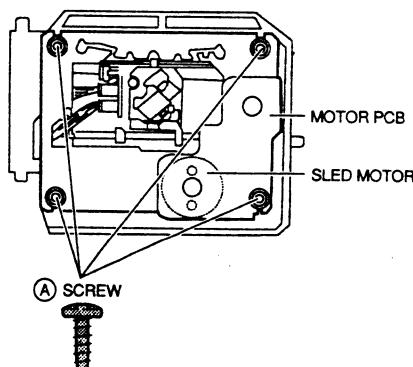

Fig. 3-3
- 2) Remove the four **(A)** screws on the TRAVERSE MECHA as shown in Fig. 3-3.